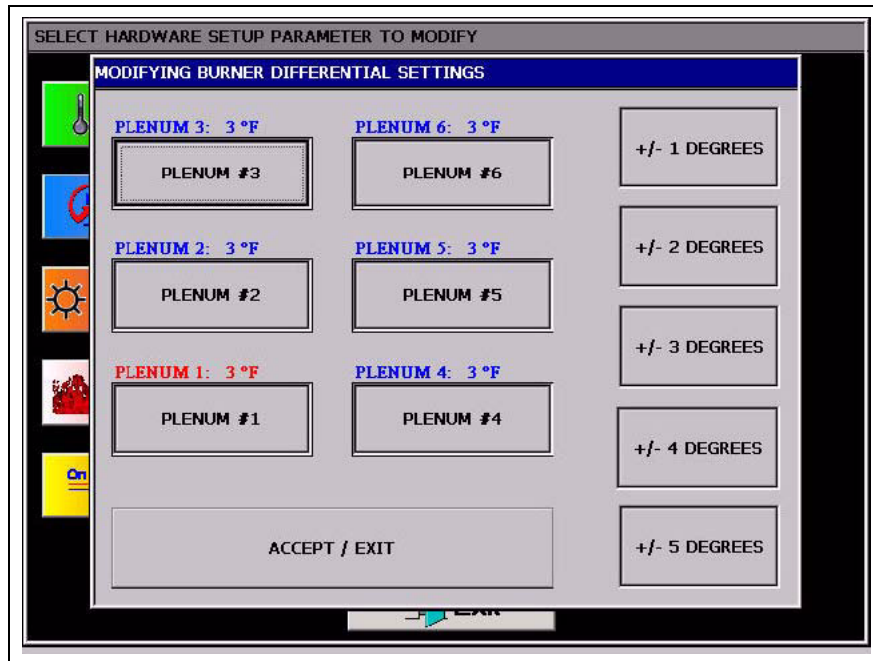

Figure 6K
2. **Differential:** Touching the Differential button will display the Modify Burner Differential Settings screen. (See *Figure 6K.*) Adjusting the burner differential settings allows the operator to keep the plenum temperature within a certain range. For example: If you have the temperature set point at 180° and you select $\pm 3^\circ$ as the burner differential, then the burner will switch to low heat at 183° and back to high heat at 177°. To modify a burner differential setting first touch the Plenum button you wish to modify, then select one of the five (5) differential setting button on the right side of the Modifying Burner Differential Settings screen. Touch the Accept/Exit button to save settings and return to the Select Hardware Setup Parameter to Modify screen. **NOTE:** *Tower dryer only have plenum #1.*